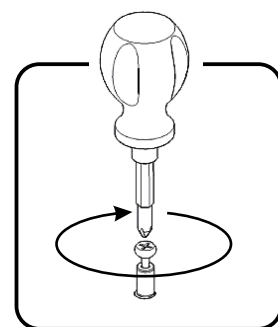

Figure 1
Insert Cam Lock Screws into pre-drilled hole in Top (A), Side Panels (C), (D), Middle Panel (E), Plinths (K) and Back Upright (N), then tighten. (See Figure 1)